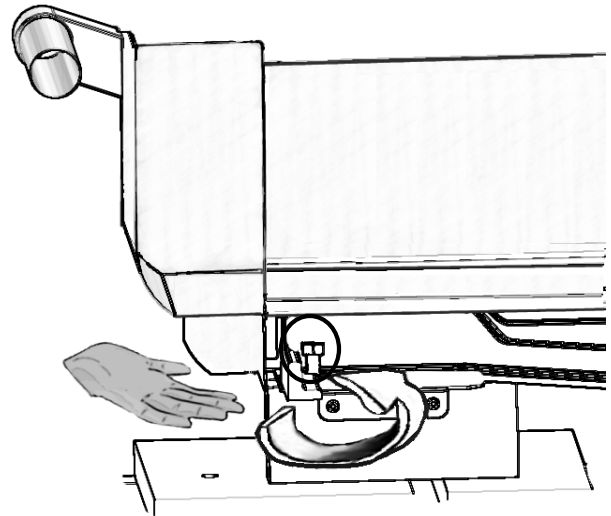

Figure 6: Removing Pallet Bolt Beneath Warming Drawer
- After removing the pallet bolts using (2) 1/2" (13mm) wrenches (one to hold bolt at the bottom while the other is loosening the nut at the top) and discarding the wood packing block inserts, the range may be carefully tilted back on the (2) casters and removed from the pallet. Use additional help as required to remove from pallet.
- PRDS48JDSGU/C models: To access the pallet bolt located beneath the warming drawer reach up and behind the frame of the unit with one 1/2" wrench to hold the nut at the top (see *Figure 6*). Use the second wrench to loosen the bolt at the bottom. **DO NOT** remove the warming drawer.